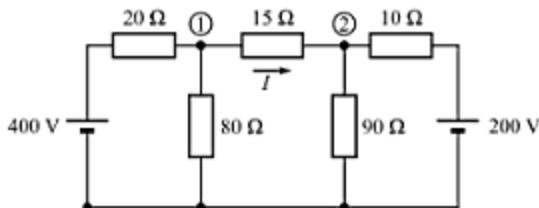

Fig. 3.81
22. Using node-voltage analysis, determine the current  $I$  in the  $15\text{-}\Omega$  resistor of the network shown in Fig. 3.81.